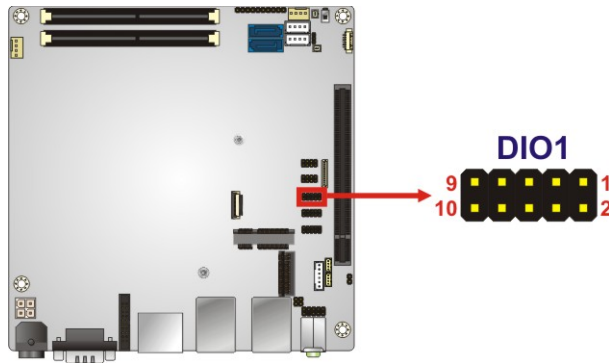

Figure 3-8: Digital I/O Connector Location
- CN Location:** See **Figure 3-8**